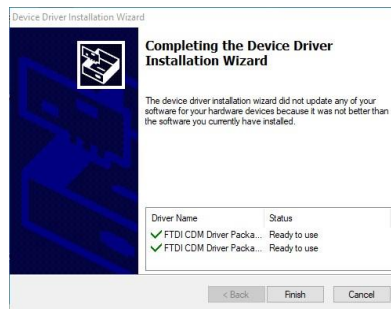

Figure 4-4: Installation Complete
Step 5: The Installation Complete window appears (**Figure 4-4**). Click **Finish** to exit.